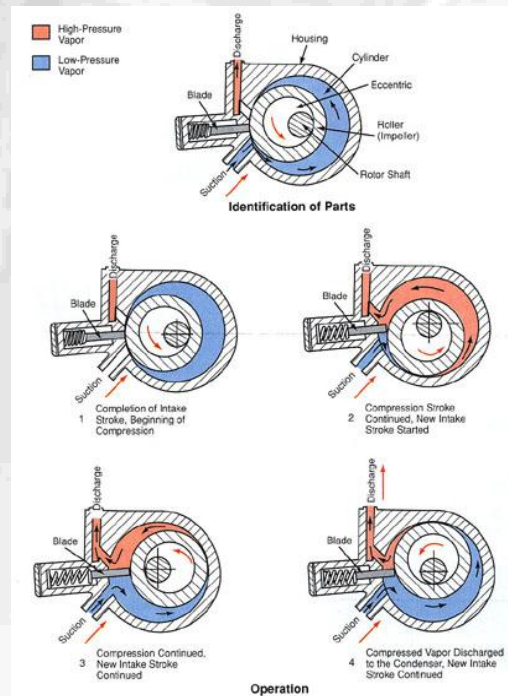

Fig.10-15 Roller-type compressor [18]
- The roller type compressor, which is also called as “blade-type rotary compressor” by some companies, compresses gases by revolving a steel cylindrical roller on an eccentric shaft which is mounted concentrically in a cylinder (Fig.10-15).